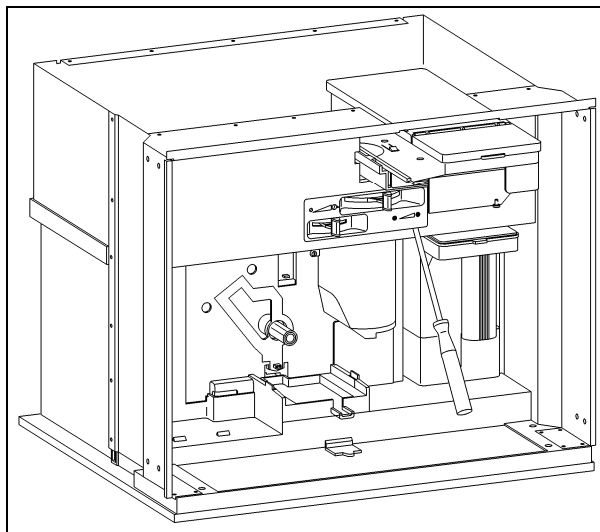

Figure 5-4: Removing the Adjustment Slide Switch Frame
3. Press the locking tabs inward with a small flathead screwdriver (Figure 5-4).